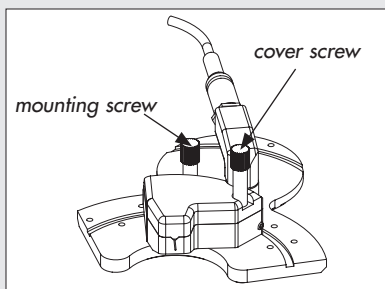

Figure 5.28 UTM mounted in the forward position on the stage plate
1. Lower the assembled microtee into the cavity in the base of the UTM (see Figure 5.28). The setscrews on the black cap should be visible when the microtee is properly in place.
2. Replace the UTM module top. Place the cover screw through the hole in the module top and align it with the mating hole in the module base and tighten. Figure 5.28 shows properly mounted UTM and tip holder.
The UTM can be used with uncoated PicoTips in the forward position for continuous infusion, as shown in Figure 5.28. This configuration minimizes transfer volumes by accommodating a short PicoFrit column (5 cm or shorter) or an uncoated PicoTip. In this arrangement, as with the UTM in the back position, high voltage is applied directly to the solvent stream in a liquid junction via an electrode. The uncoated tip module uses a special microtee to supply the high voltage.